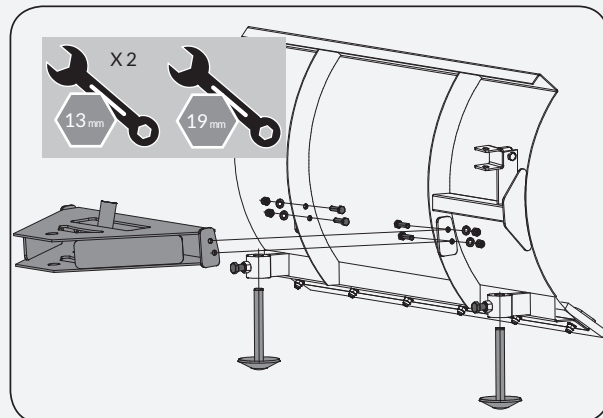

Figure 6a
1. Install the two supporting feet to the blade as shown in Fig. 6a, adjust the height and secure them with M12 \times 30 bolts and nuts. Mount the steering bracket to the blade with M8 \times 30 bolts, washers and nuts. (See **Figure 6a**)